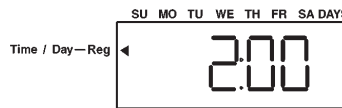

fig.13
- 2) Using the buttons $\downarrow\uparrow$ select the regeneration time (fig. 13).